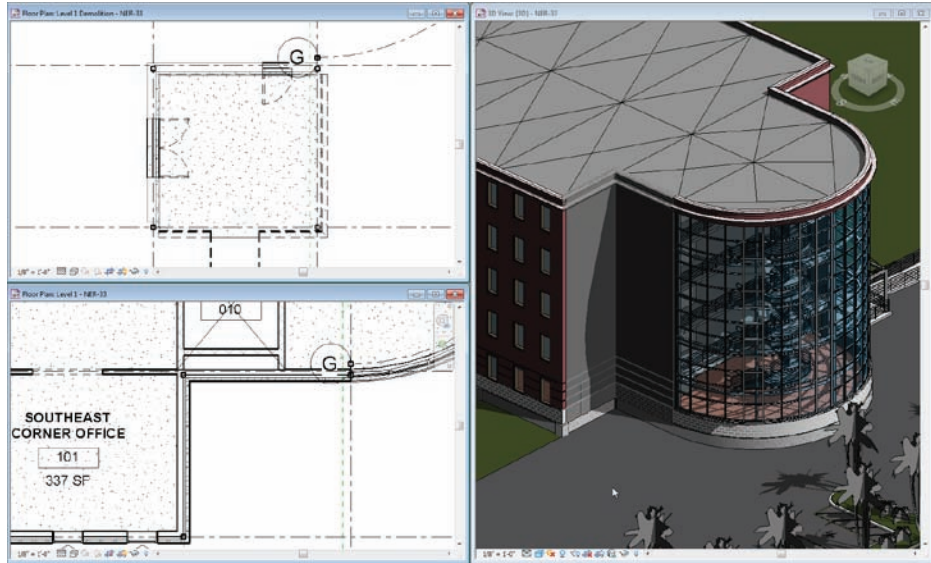

FIGURE 21.7 The completed phasing
18. Select the doors, and set Phase Demolished to Demolition. Revit removes the doors and infills the openings, as shown in Figure 21.7. (It's understood that the entire building should be existing. This is an example of how Revit behaves during the phasing process.)